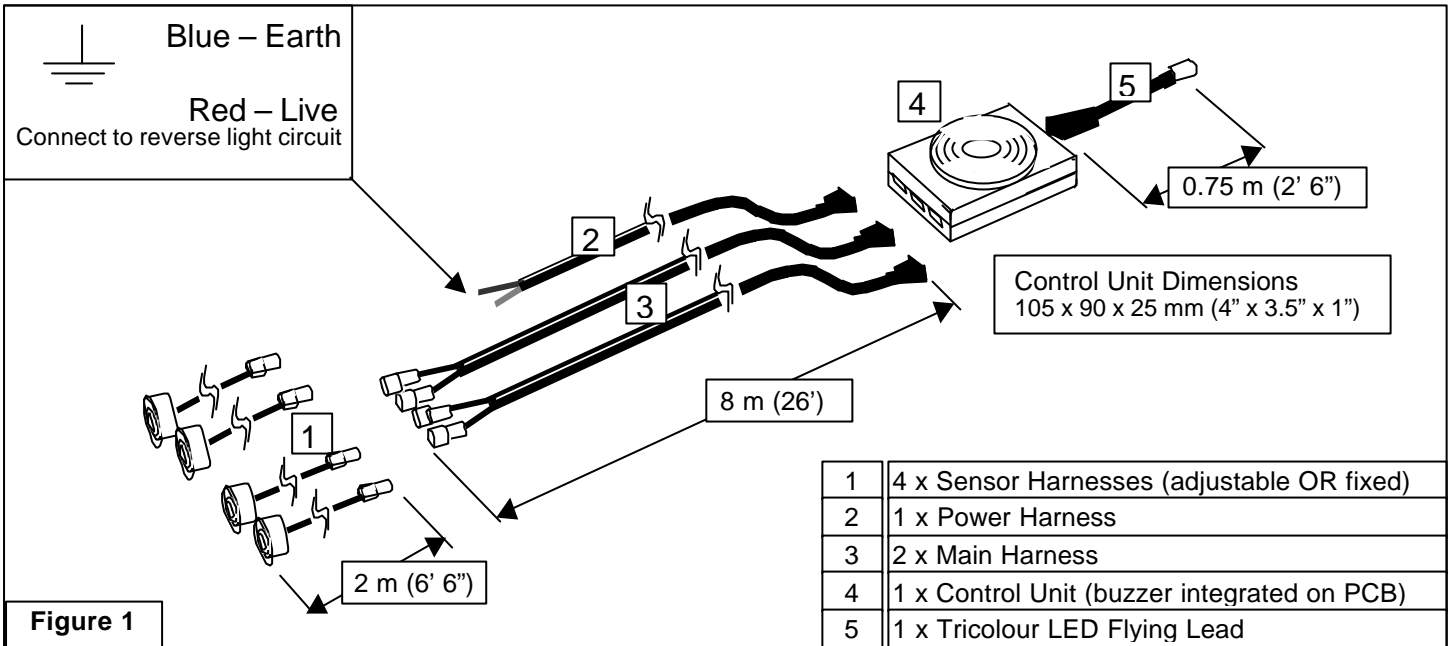

Figure 1
- Connect the other cable harnesses into BackMinder as shown in Figure 1 taking care to ensure the connectors mate correctly.
- Connect the LED flying lead, Power Cable and Main Harness in to the Control Unit as indicated in Figure 1. Ensure that the connectors are mated properly. Ensure the Power Lead is not connected into the Main Harness plug on the Control Unit.